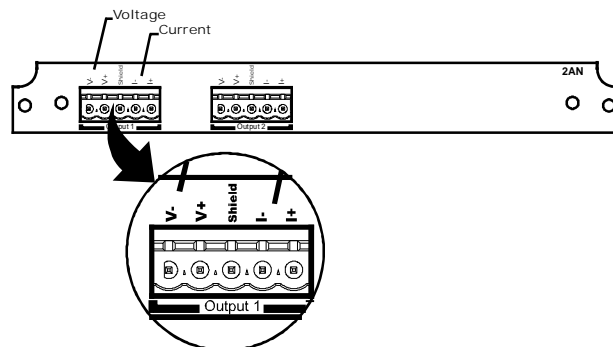

FIG. 80: ANALOG ELECTRICAL CONNECTIONS
Step 1. If you are using a current output (4-20 milliamp) connect the positive and negatives wires to the -I and +I pins. (See Fig. 80)